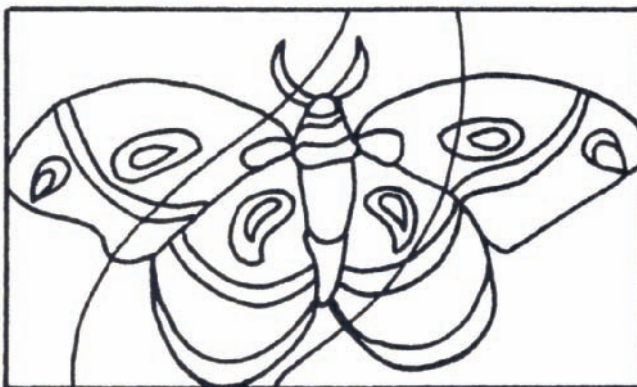

Figure 2.2.
3. Divide the drawing into three parts, as shown in Figure 2.2. The parts do not need to be equal in size.